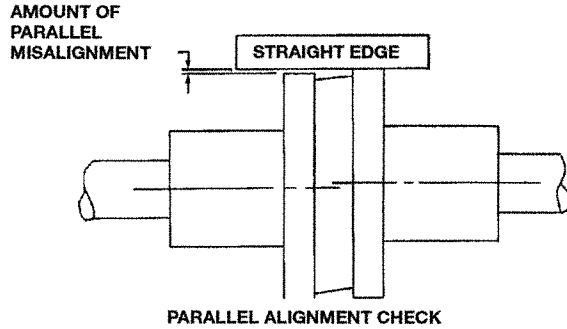

FIGURE 7A
2. At four points  $90^\circ$  apart (**DO NOT ROTATE COUPLER**), measure the parallel coupler misalignment by laying a straight edge across one coupler half and measuring the gap between the straight edge and opposite coupler half. Up to a  $\frac{1}{64}$ " gap is permissible. Refer to figure 7A.